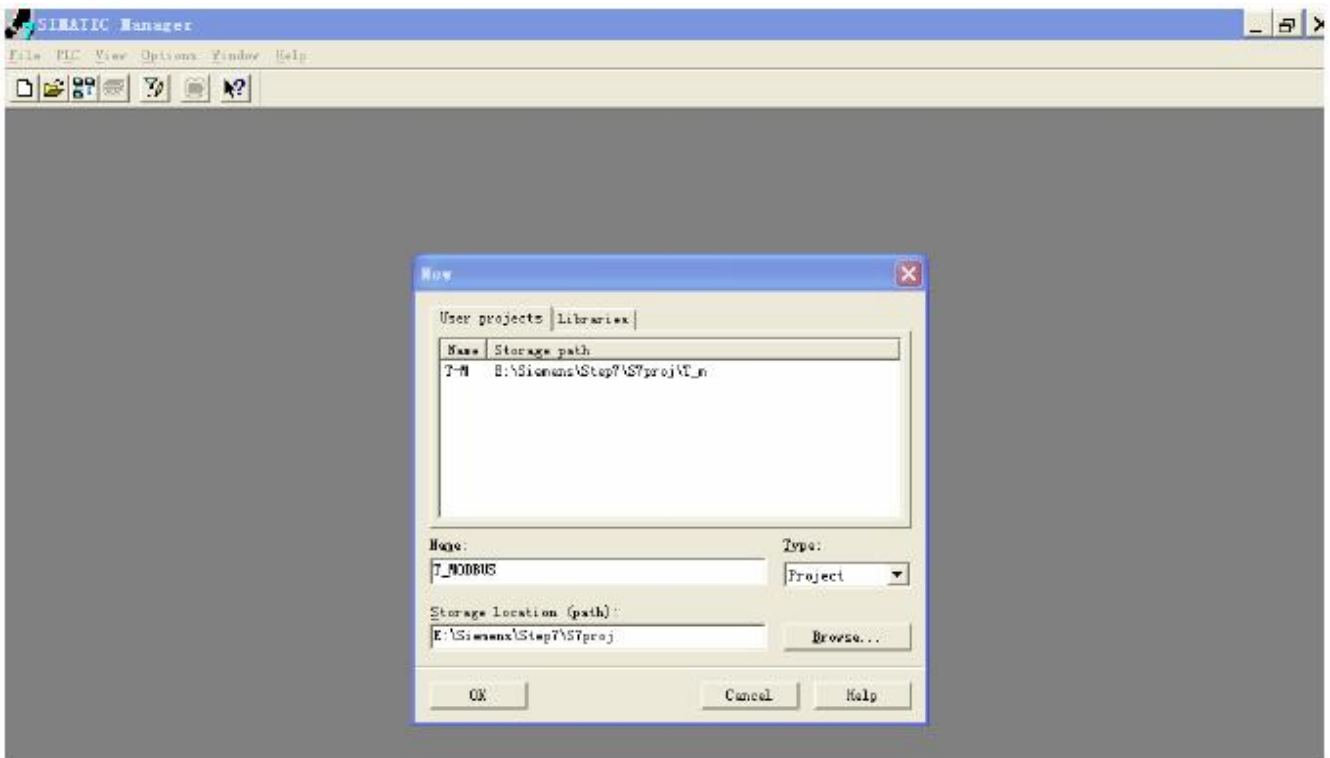

Figure 2
2. Click File->New, create a new project; Figure 2: